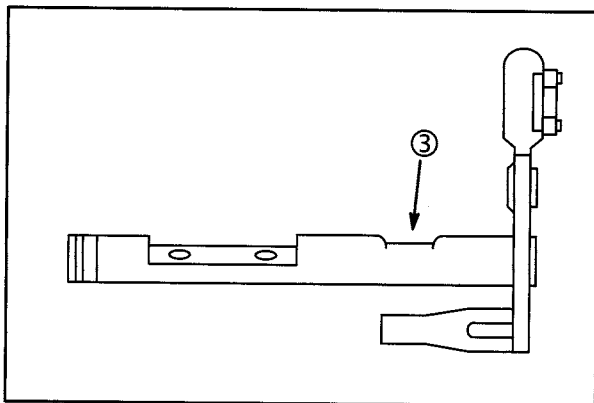

Fig. 77
2. Inspect throttle shaft and choke shaft for wear (3), Fig. 77. Replace if worn.